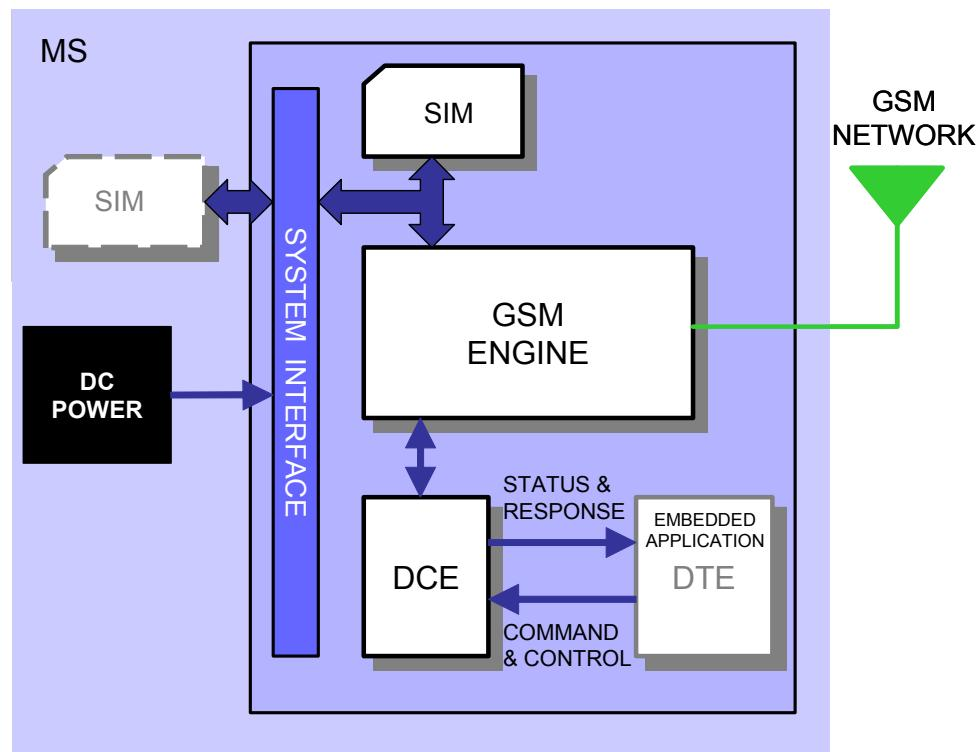
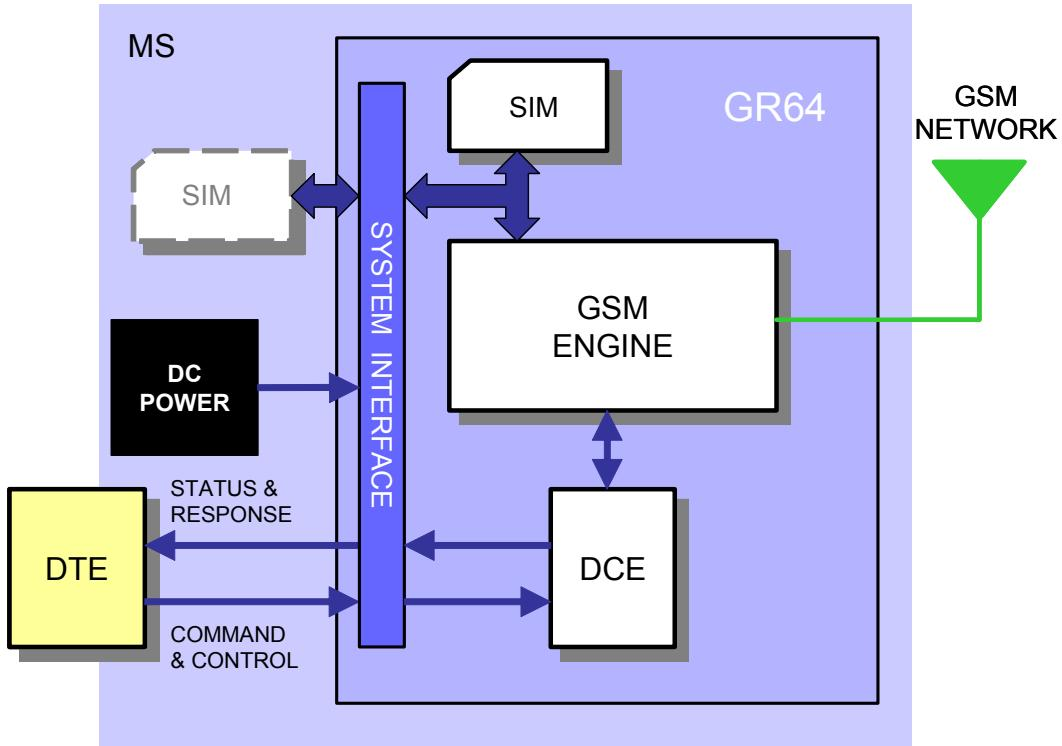

Figure 2.2-1 Main Blocks in a Wireless System (embedded application)
Figure 2.2-2 Main Blocks in a Wireless System (external micro-controller)
*Figure 2.2-1 and Figure 2.2-2 illustrate the main blocks of a wireless communication system using the wireless modem. Figure 2.2-1 shows the communication system when the script is embedded on the wireless modem and Figure 2.2-2 shows the communication system when a micro-controller is used. They also show the communication principles of the system and the interface between the wireless modem and the application. The definitions in the figures, as used elsewhere in this manual, are in accordance with the recommendations of 3GPP TS 27.007.*